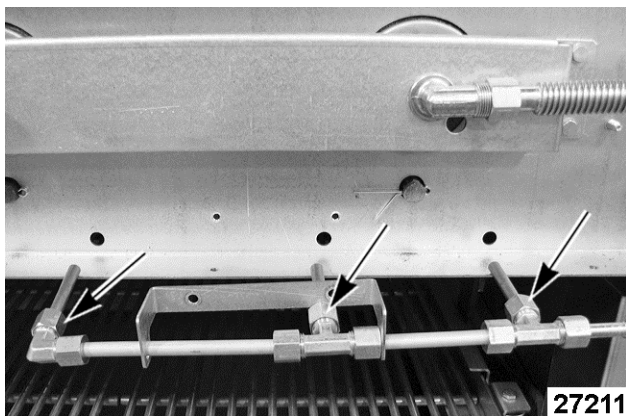

Fig. 9
3. Pull the pilot tube assembly Fig. 9 away from broiler. There are 3 pilot tubes on each assembly.
4. Disconnect compression nut Fig. 9 from the pilot tube fitting and remove the tube.